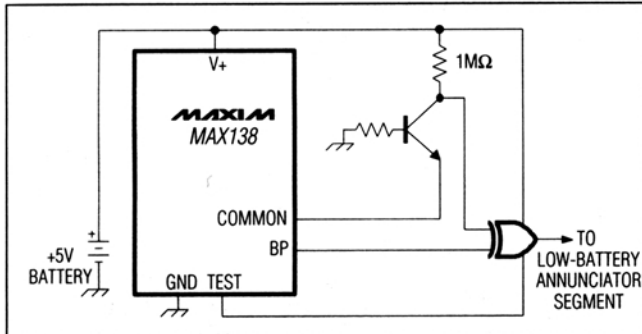

Figure 6. Low-Battery Detector and LCD Segment Drive
Since the voltage between COMMON and V₊ is between +2.95V and +3.15V until the voltage between V₊ and V₋ falls to less than +4V, a simple low-battery detector can be made using a transistor voltage detector as shown in Figure 6. When Q1 is off, the low-battery segment is driven in phase with the backplane off. When Q1 turns on, the low-battery LCD segment becomes visible. Q1 turns on when the voltage at the base of Q1 is one base-emitter voltage more positive than COMMON voltage.
4. If the input-signal polarity is reversed from the desired polarity, use the minus segment to drive the vertical bar of a plus sign and (using one of the decimal-point driver circuits of Figure 6) to permanently turn on the horizontal bar of the plus sign. When the MAX138/139/140 measures a negative polarity, a "+" will be displayed. When the MAX138/139 measures a positive polarity, a "-" will be displayed. (Normal operation of the MAX138/139/140 is no polarity indication for a positive input and a "-" sign for a negative input.)